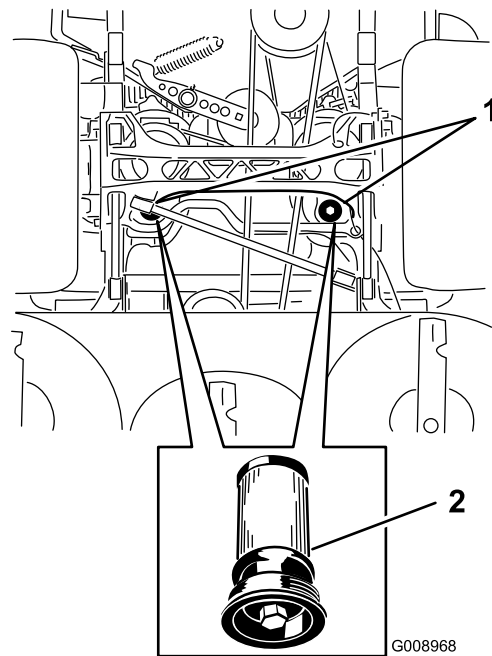

Figure 96
5. Place a drain pan under the filter, remove the old filter, and wipe the surface clean (Figure 96).
6. Apply a thin coat of hydraulic fluid to the rubber gasket on the replacement filter (Figure 96).